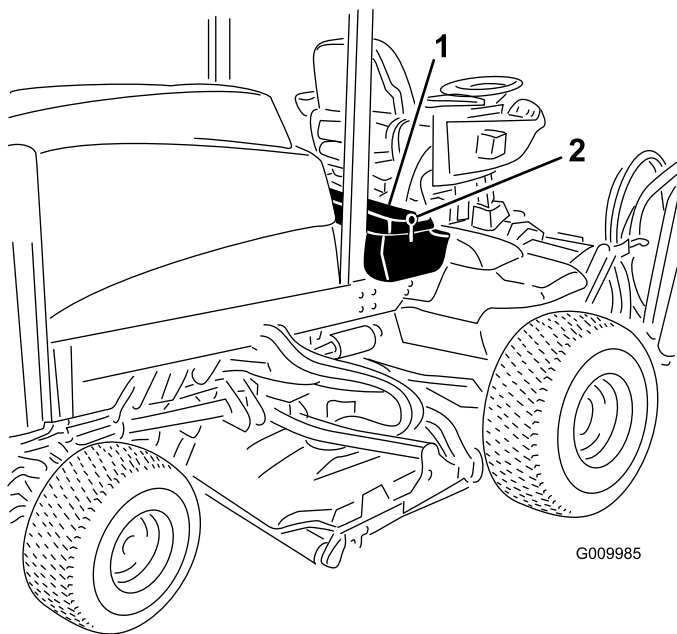
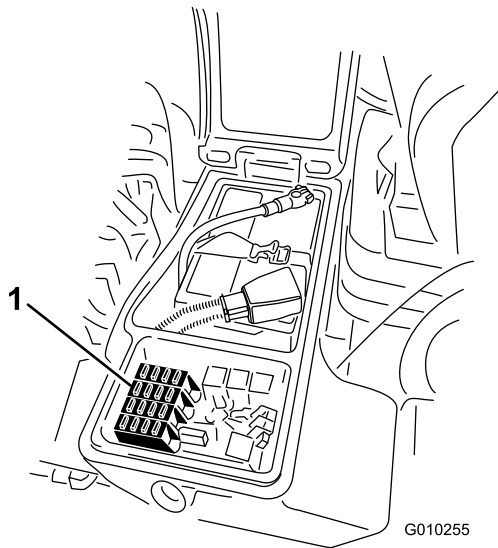

Figure 55
Figure 56
1. Loosen the latch for the cover of the right storage box and raise the cover (Figure 55) to expose the fuse block (Figure 56).
2. Replace the open fuse(s) as needed (Figure 56).
3. Close the cover of the right storage box and secure the cover with the latch (Figure 55).